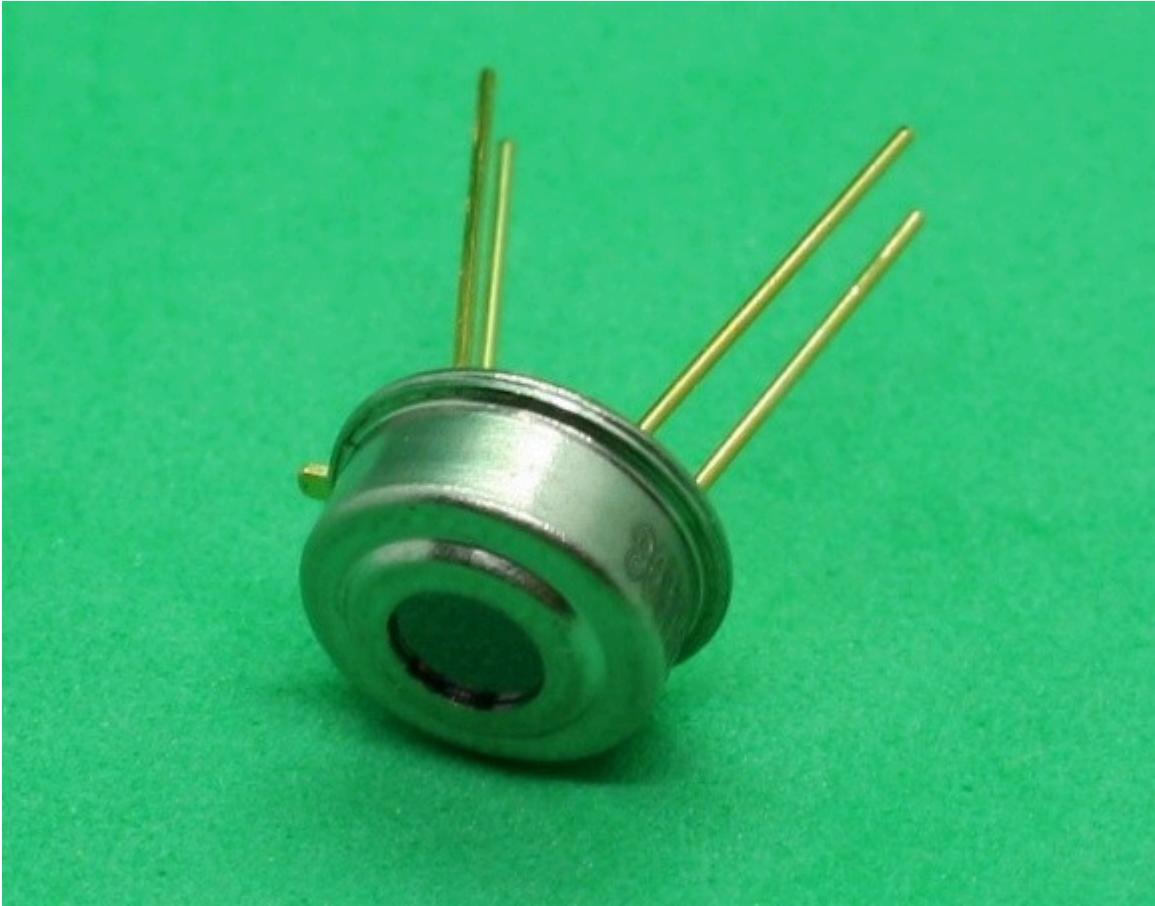

Figure 12.2 – The MLX90614 sensor showing its four pins
*Figure 12.2* shows the MLX90614 sensor:
In *Figure 12.2*, please note that there is a round transparent window on the sensor, where the IR light passes through, hitting an internal sensitive part. This part will convert IR light into electrical impulses.